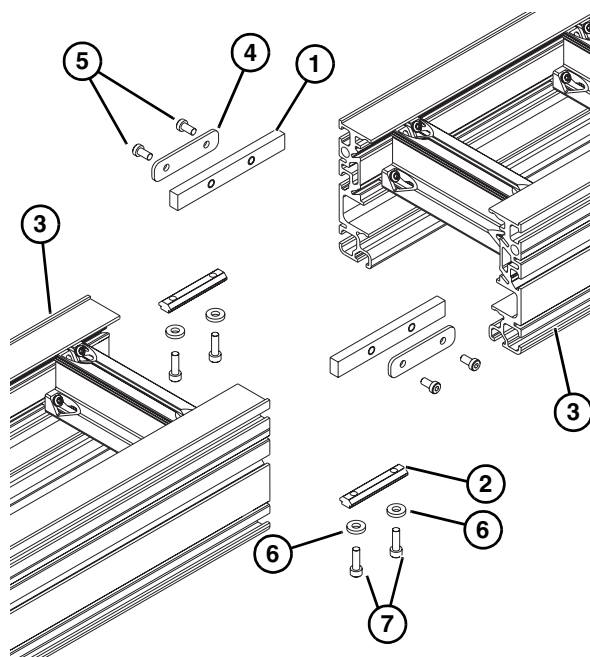

Figure 4
Typical Connecting Components (Figure 4)
2. Install two bar frame connectors (Figure 4, item 1) and two drop-in tee bars (Figure 4, item 2) into one conveyor section (Figure 4, item 3).
3. Join both conveyor sections, and install plate frame connectors (Figure 4, item 4), and secure with M6x12 low head cap screws (Figure 4, item 5) on both sides. Tighten cap screws to 60 in-lb (7 Nm).
4. Install washers (Figure 4, item 6) and M6x20 socket head screws (Figure 4, item 7) into drop-in tee bar (Figure 4, item 2) on both sides as indicated. (Do not tighten hardware. This is for stand installation.)